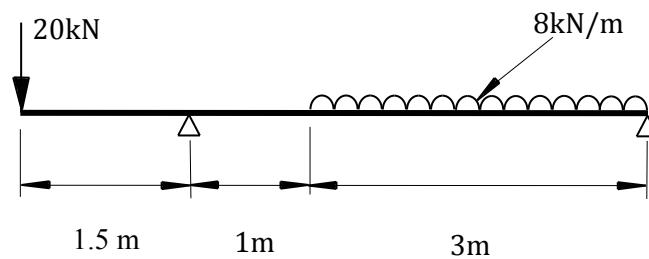

Fig Q8
8. A simply supported beam is loaded as shown in Fig Q8. The beam is solid and of square section of side length 100 mm.